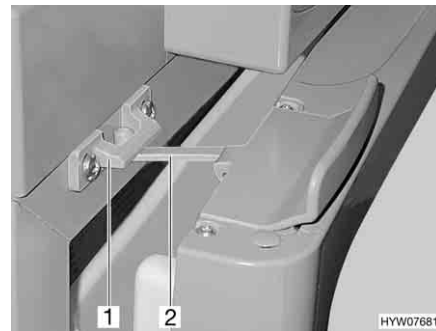

Fig. 228 Refrigerator door in ventilation position (Thetford)
■ Open the lock (Fig. 228,2) and snap it into the locking catch (Fig. 228,1). The refrigerator door will then stay slightly open.